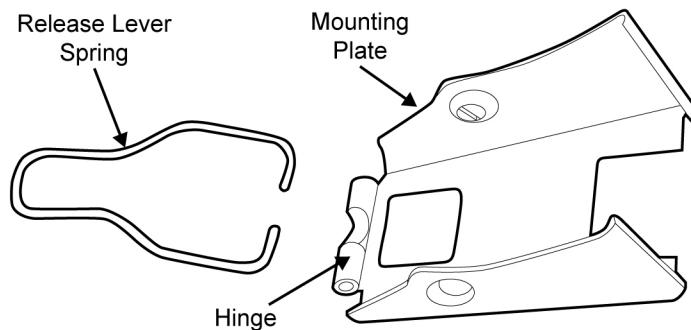

Figure 40. Removing the Release Lever Spring from the Mounting Plate.
d. Remove the release lever spring by pulling its ends out of the hinge of the mounting plate. Refer to Figure 40.